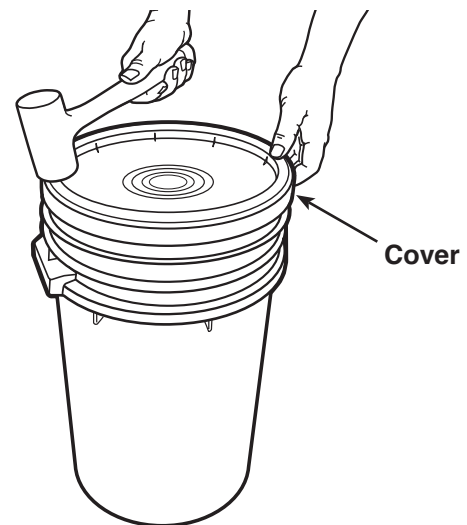

Figure 13
7. When you purchased the new vacuum filter, it was shipped with a filter cover. Remove the cover from the box and, using a soft hammer, tap the cover onto the old filter canister. See Figure 13.